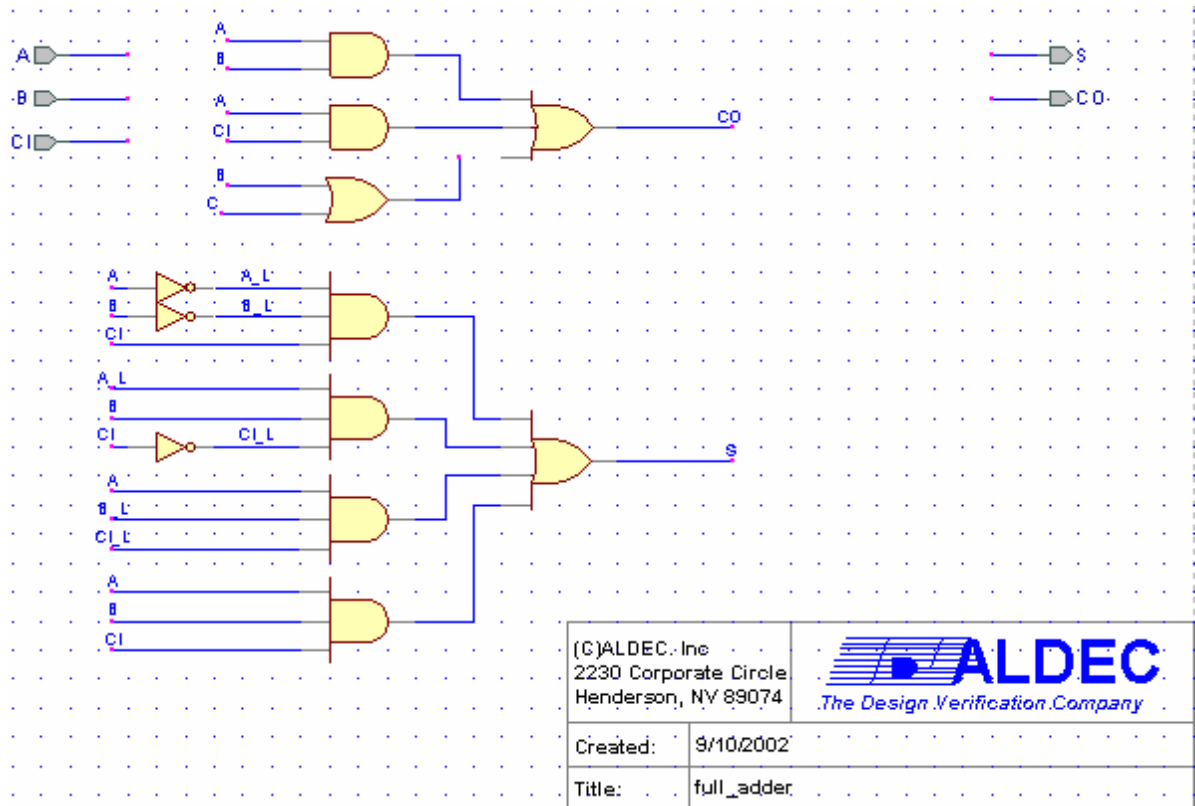

Figure 40
We will walk through a simple, yet common, scenario with a schematic that contains errors and warnings. Some of these problems can be pinpointed and solved by simply running a check diagram and reviewing the DRC. However, the DRC cannot find and report your logic errors. What do you do if you have checked your design, compiled successfully, and when you run your simulation, your results are flawed? The techniques below will show you how to use the tools provided by Active-HDL to trouble-shoot your design, and fix some of the most common mistakes. We used Figure 40 in the following steps to demonstrate the debugging process*.
1. First, we saved, and checked our design. When checking the schematic shown in Figure 40, Active-HDL generated the DRC report shown below.